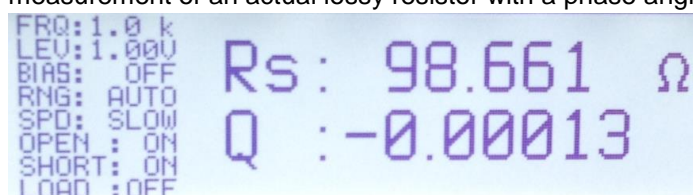
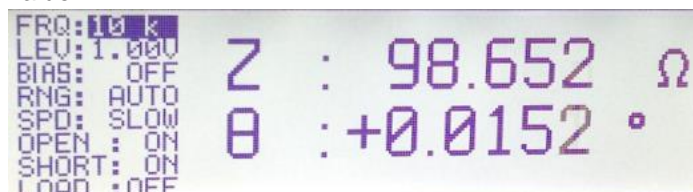

Fig. 2-6: Display of resistance and quality for a resistor at 1 kHz.
Fig. 2-7: Display of impedance and phase angle for a resistor.
- The correct measurement function is set automatically in Auto mode, which is enabled by default (see Fig. 2-8 and Section 2.1.2.1). In this case, R-Q is displayed, i.e. resistance R and quality Q ( Fig. 2-6). Other parameters such as impedance and phase angle are displayed by pressing a key and selecting the appropriate measurement functions as described in the manual. In the case of an ideal resistor, the phase angle is 0°. Fig. 2-7 shows the measurement of an actual lossy resistor with a phase angle of 0.0152°.